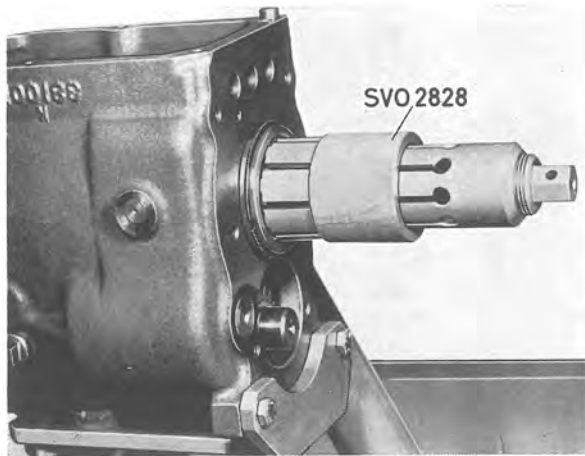

Fig. 4-20. Removing mainshaft rear bearing, M 400
8. Remove the speedometer gear. Pull out the rear bearing of the mainshaft with tool SVO 2828, see Fig. 4-20. If the bearing sticks in the gearbox housing, push the mainshaft forwards so that its drive and synchronizers go against the drive of the intermediate shaft. To prevent this, place a piece of flat iron or similar between the front end of the mainshaft and the gearbox housing. For the M 410, remove the bolt in tool SVO 2828